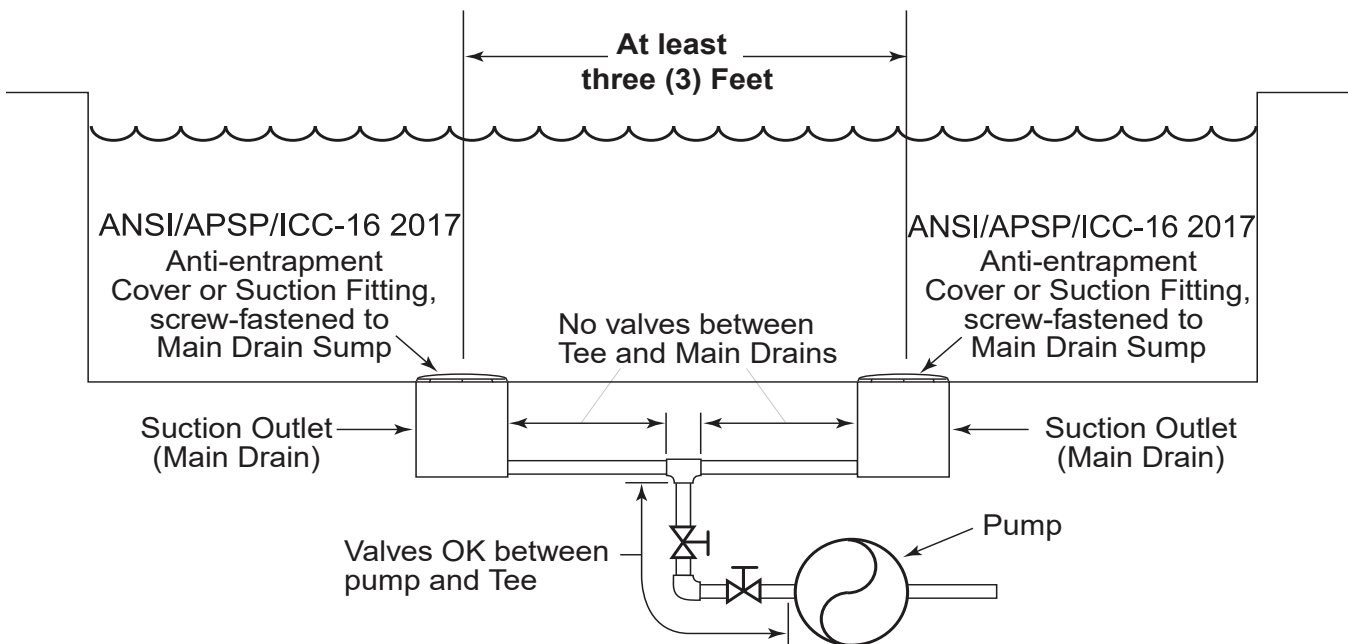

Figure 1: Outlets Per Pump
Provide at least two (2) hydraulically balanced main drains, with covers (see Figure 1), for each swimming pool pump suction line. The centers of the main drains (suction fittings) must be at least three (3) feet apart. The system must be built so that it cannot operate with the pump drawing water from only one (1) main drain (that is, there must be at least two (2) main drains connected to the pump whenever it is running, see Figure 1). However, if two (2) main drains run into a single suction line, the single suction line may be equipped with a valve which will shut off both main drains from the pump (see Figure 1).